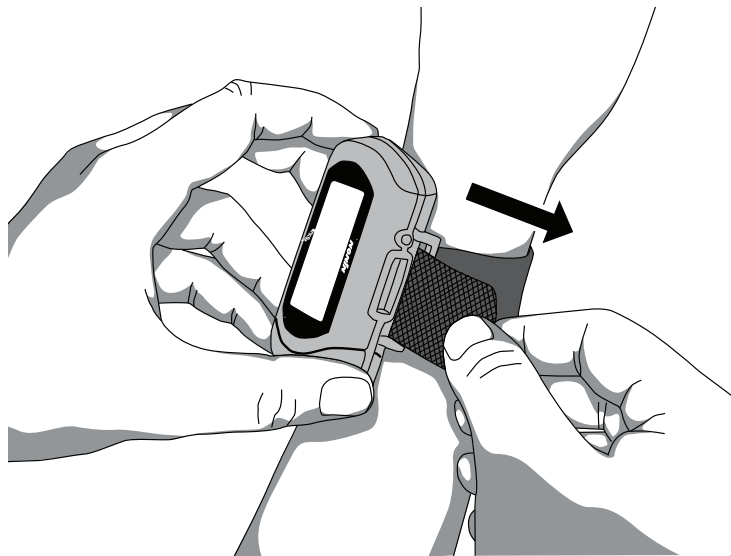

Figure 19: Tighten Single Strap
4. Pull the strap through the strap bar until the device fits comfortably on the patient's wrist (figure 19).